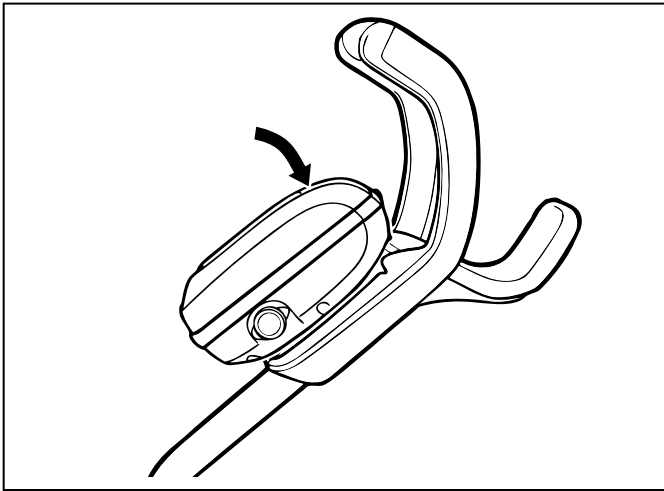

Figure 11. Attach the Control Unit onto Caddy
- Press control unit onto the caddy hook until it snaps and locks into position (Figure 11).